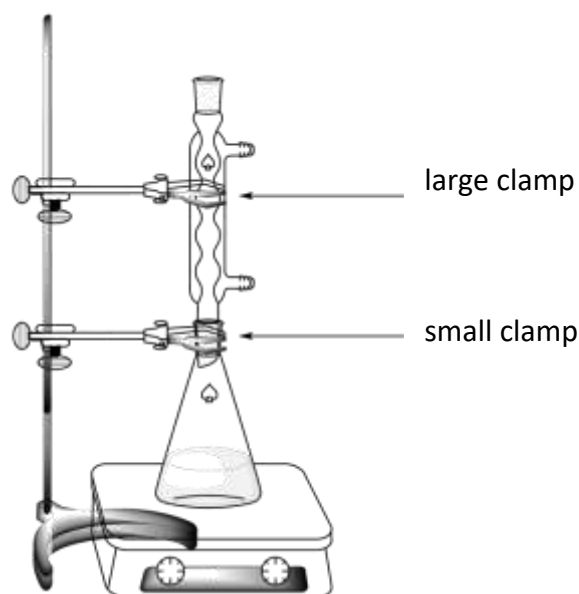

Figure 1. Setup for heating the reaction mixture under reflux
4. **Attach** the reflux condenser by loosening (un poco suelto) the large clamp and adjusting the ground joints (see Figure 1). **Raise** your HELP card. A lab assistant will come to turn on the water and set the hotplate.
2. **Perform** the recrystallization of the crude product contained in the 50 mL ground-joint Erlenmeyer flask with the **appropriate amount** of this water/ethanol mixture, using the same setup as for the reflux heating (see Figure 1). **Raise** your HELP card. A lab assistant will come to turn on the water and set the hotplate. **Add** the solvent by the top of the condenser, if needed.